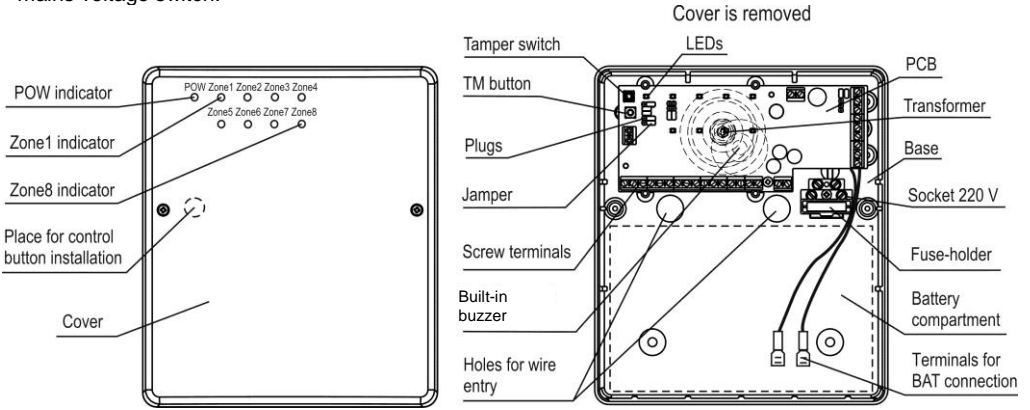

Figure 1
7.1 Control panel is designed as a block with a removable cover (Figure 1). Installed inside a block are printed circuit board (PCB) with radio elements, network transformer and fuse block for mains voltage switch.